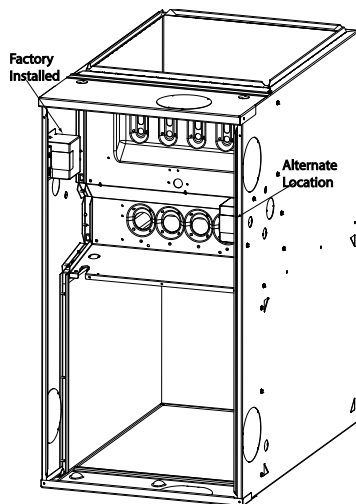

Fig. 26 – Relocating J-Box
1. Remove and save two screws holding J-Box, see Fig. 26.
NOTE: The J-Box cover need not be removed from the J-Box in order to move the J-Box. Do NOT remove green ground screw inside J-Box, see Fig. 26.
4. Remove and save two screws holding J-Box, see Fig. 26.